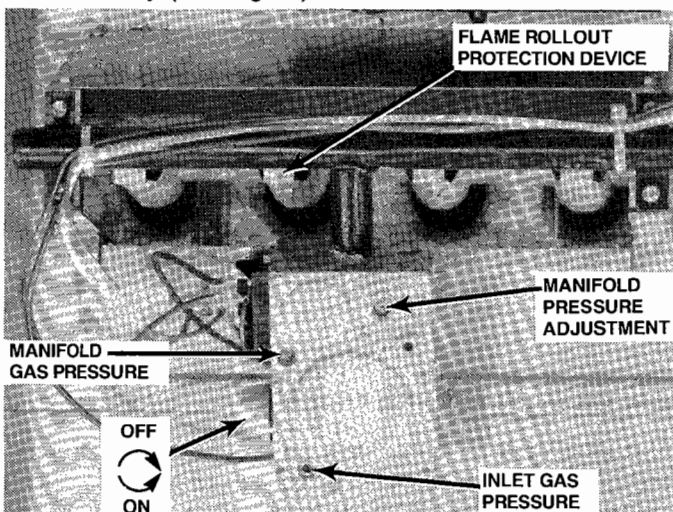

Fig. 12. Gas Valve and Roll-Out Protection Device
If the flames from the burners are not properly drawn into the heat exchanger, a protection device will open causing the furnace to shut off. The protection device is located on the manifold assembly. (See Fig. 12)
6. Turn the gas control valve knob clockwise  to "OFF" position. Do not force. See Fig. 12.
7. Wait five (5) minutes to clear out any gas. Then, smell for gas including near the ground.
8. If you have waited five (5) minutes and smell gas, immediately follow the instructions on the cover of this manual. If you have waited five (5) minutes and do not smell gas, turn the gas valve knob counter clockwise  to the "ON" position. See Fig. 12.
1. Connect a water manometer or adequate gauge to the "inlet gas pressure" tap of the gas valve. (See Fig. 12.)
3. Turn the gas control clockwise  to "OFF" position. Do not force. See Fig. 12.